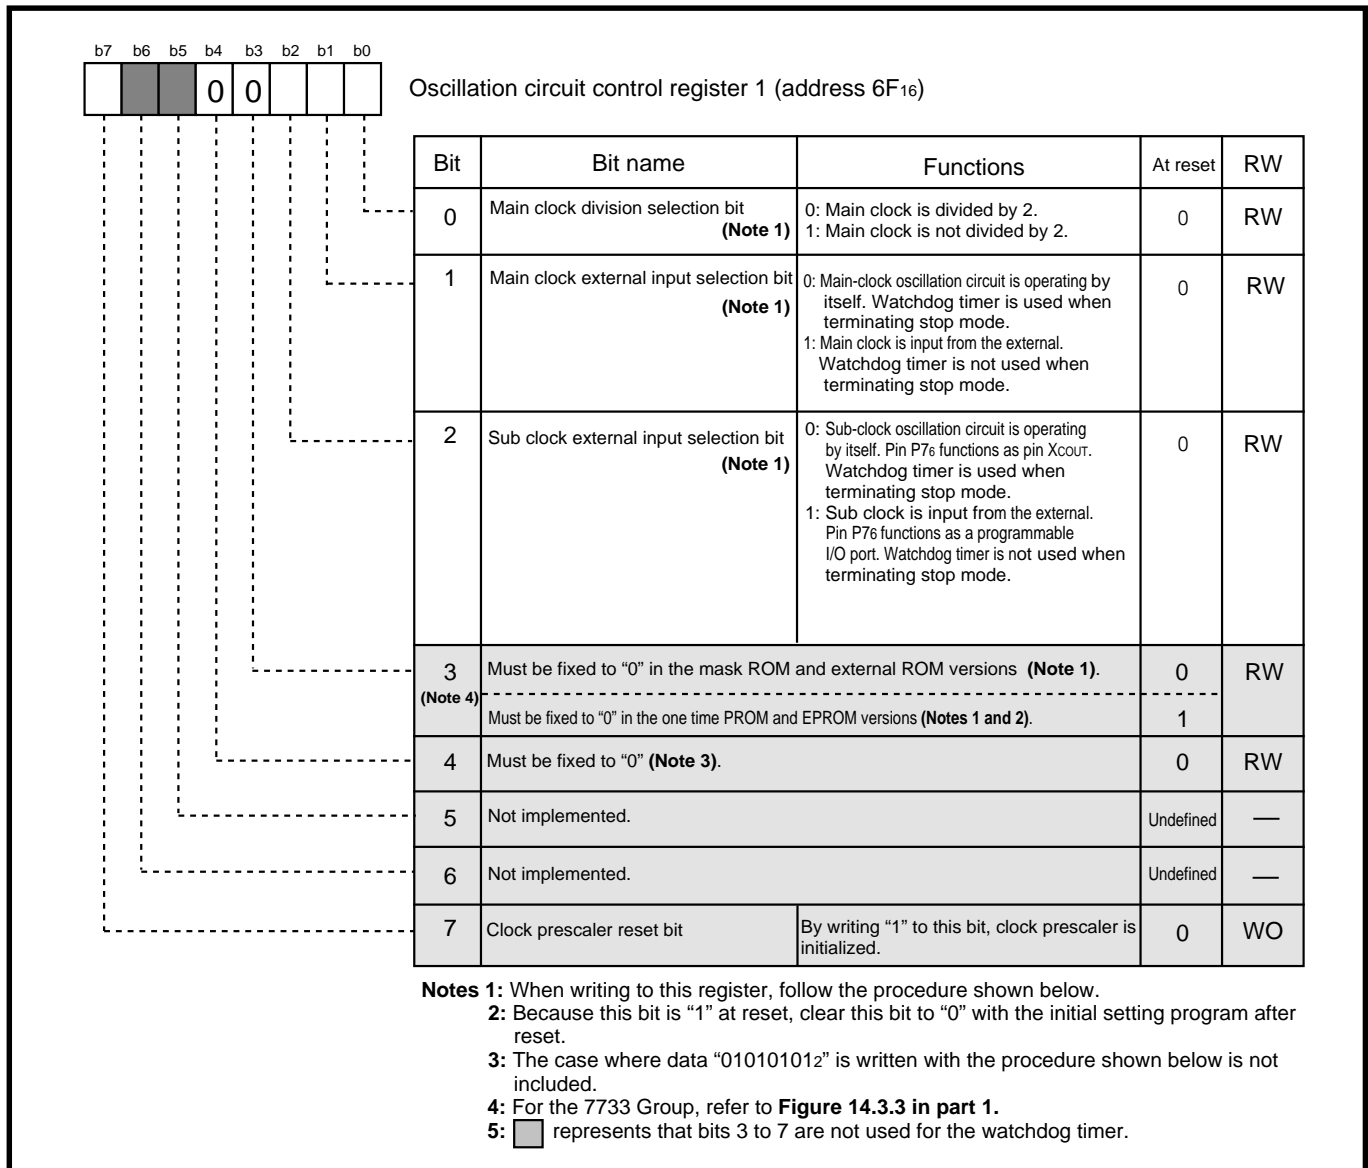

Fig. 10.2.2 Structure of oscillation circuit control register 1
- **Figures 10.2.2 and 10.2.3**